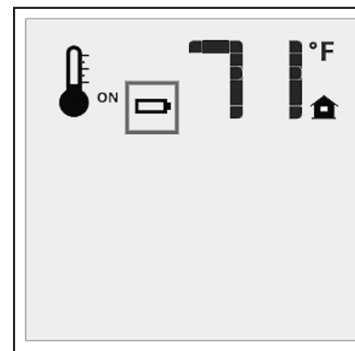

Figure 17: Low Battery
**Transmitter:** The life span of the remote control batteries depends on various factors: quality of the batteries used, the number of ignitions of the appliance, the number of changes to the room thermostat set point etc. When the Transmitter batteries are low, a Battery Icon will appear on the LCD display of the Transmitter (see Figure 17) before all battery power is lost. When the batteries are replaced this icon will disappear.